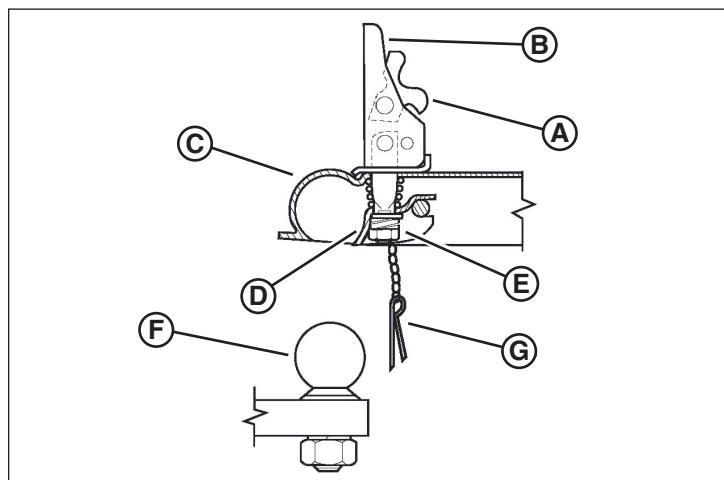

Figure 7
- Pull up on the locking trigger (**A**, Figure 7), and lift the locking lever (**B**, shown lifted).
- Adjust the coupler to the hitch ball (**F**, Figure 7) by pushing the channel lock (**D**) up, away from the adjusting nut (**E**).
- Check to be sure the hitch ball is completely engaged in the coupler socket (**C**, Figure 7).
- Push the locking lever down into the locked position. Insert the locking pin (**G**, Figure 7) into the hole in the locking lever, or use a padlock for added security.